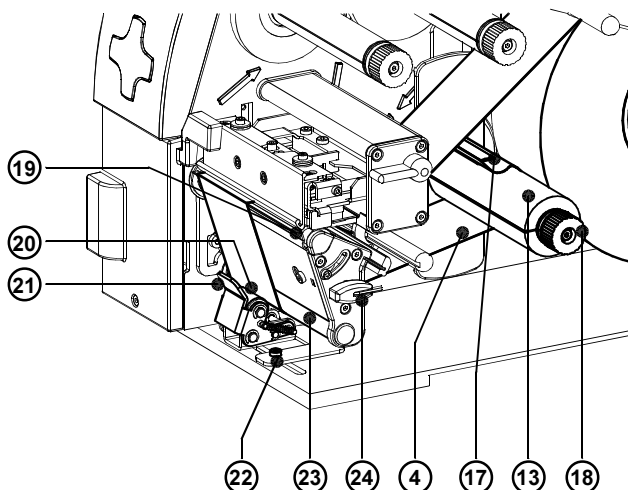

Fig. 7g Loading Labels from Roll in Peel-off mode
13. For peel-off mode swing the locking system (21) away from the rewind assist roller (23).
14. Remove all labels from the media strip hangig out of the printer. Then, slide the strip (25) around the dispense plate (19) to the internal rewind hub (13) as shown in figure 7g. Slide the strip under the clamps (17) that are located on the internal rewind hub (13). Hold the internal rewind hub (13) and rotate the nut (18) counter-clockwise until it is tight. The media strip will now be fastened to the internal rewind hub (13). Rotate the internal rewind hub (13) counter-clockwise to tighten the media strip.
15. Loosen the screw (22) using the Allen key (24). Align the locking system (21) including the pinch roller (20) by sliding it sideways. The alignment is correct if the pinch roller (20) is placed in the middle of the label strip.
16. Swing the locking system (21) to the rewind axle (23) and tighten the screw (22).